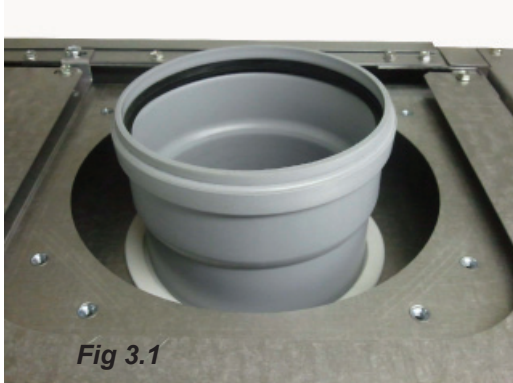

Fig 3.1
- Fully insert (approx 50mm) plastic flue pipe section (supplied) into flue socket (fig 3.1).